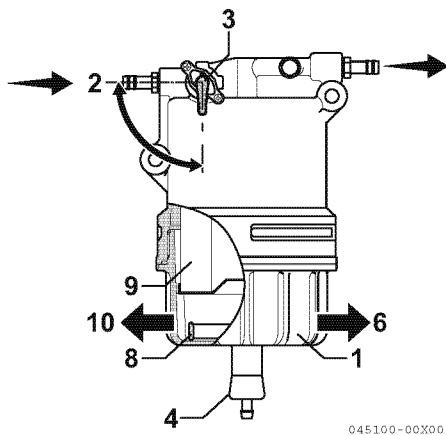

Figure 5-14
1. Position an approved container under the cup (Figure 5-14, (1)) of the fuel filter/water separator to collect the contaminants.
2. Close (Figure 5-14, (2)) the fuel cock (Figure 5-14, (3)).
3. Loosen the drain cock (Figure 5-14, (4)) and drain the contaminants. See *Drain fuel filter/water separator* on page 5-11.
4. Turn the cup (Figure 5-14, (1)) to the left (Figure 5-14, (10)) and remove the cup (Figure 5-14, (1)). If equipped, disconnect the sensor wire from the cup before removing the cup.
6. Remove the float ring (Figure 5-14, (8)) from the cup. Pour the contaminants into the container and dispose of it properly.
7. Clean the element (Figure 5-14, (9)) and inside cup. Replace the element if it is damaged.
11. Install the cup to the bracket by tightening the cup to the right (Figure 5-14, (6)) to a torque of 18 - 22 N·m (1.8 - 2.2 kgf·m).
13. Open the fuel cock (Figure 5-14, (3)).